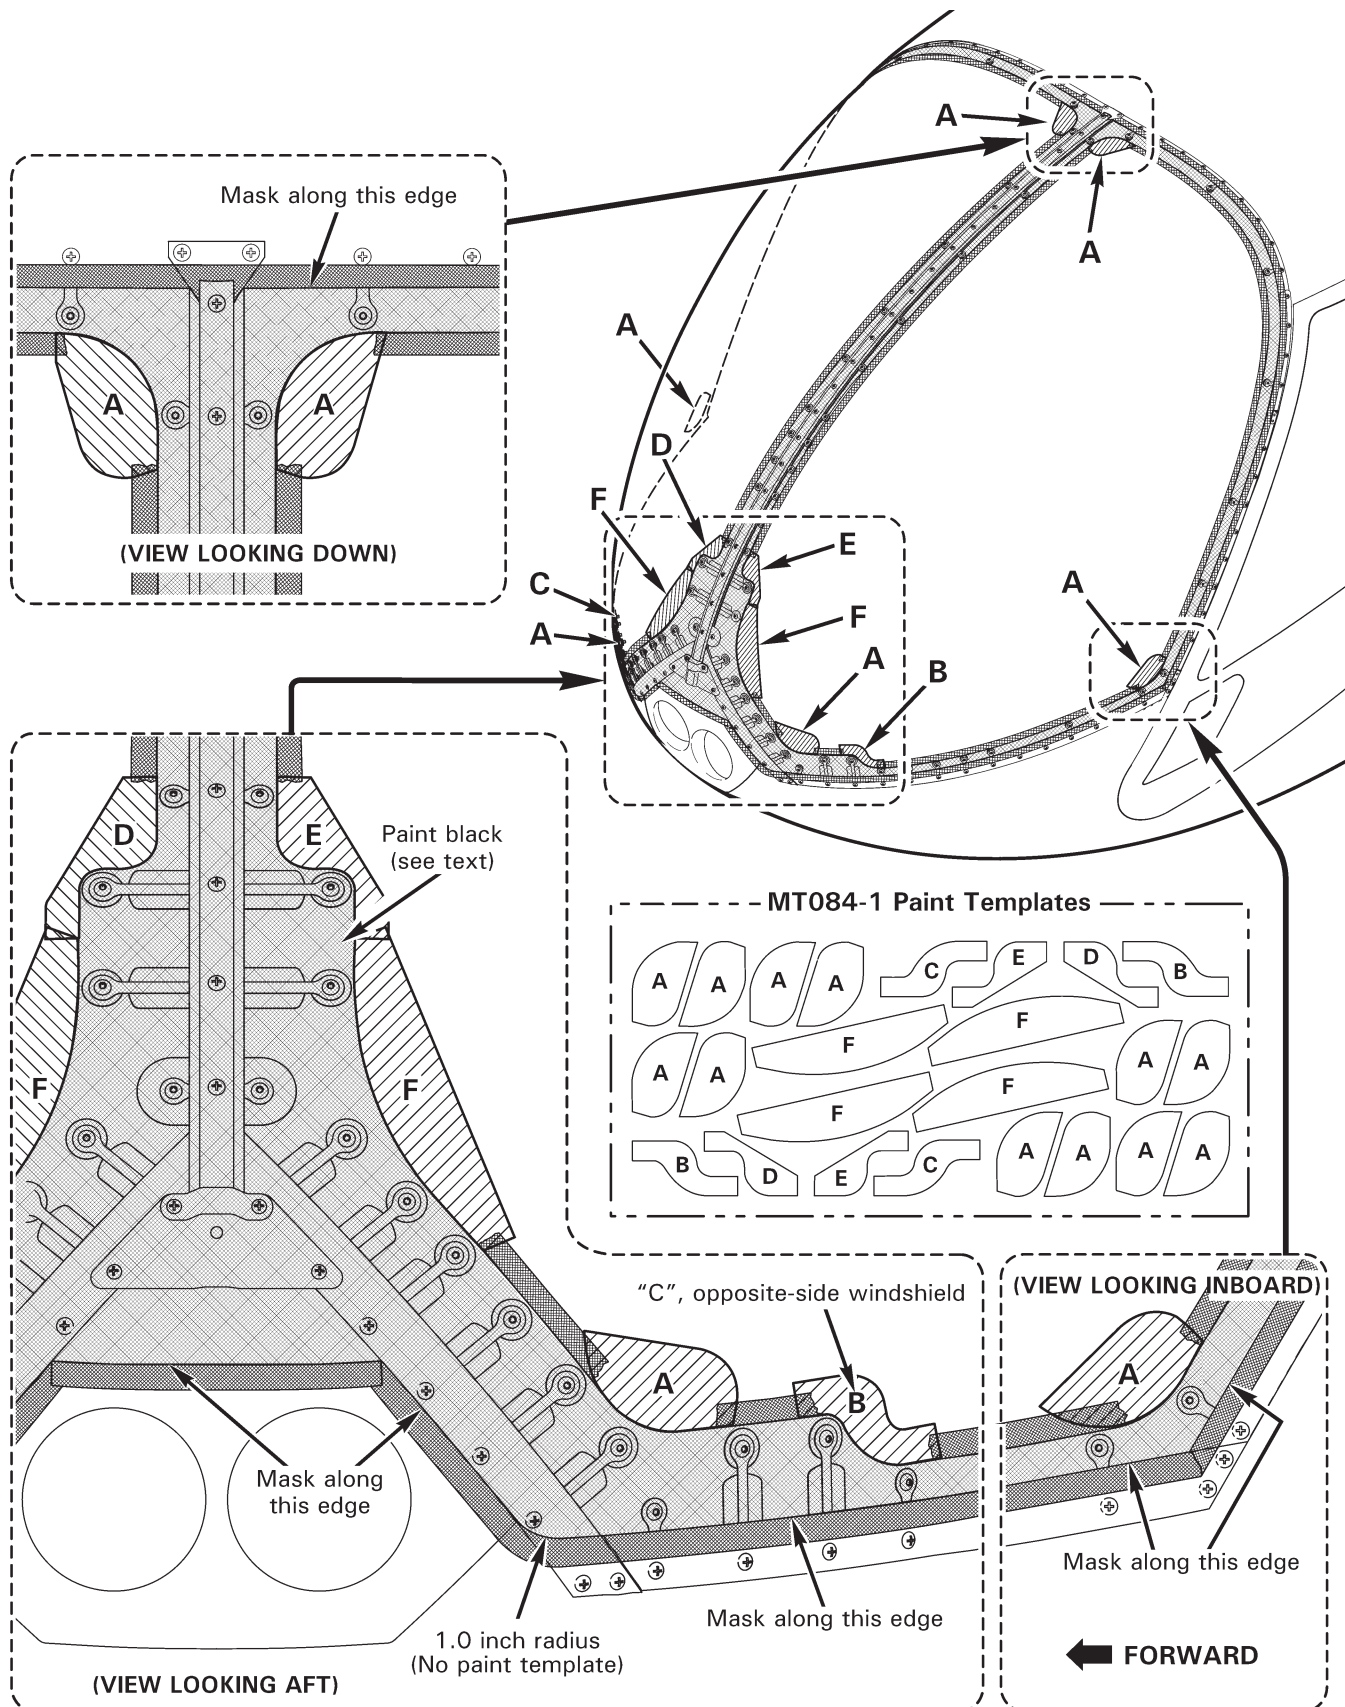

FIGURE 52-4 PAINT TEMPLATE LAYOUT
4. Refer to Figures 52-4 and 52-5. Using 3M vinyl tape (or equivalent), apply masking ("Tape 1" and "Tape 2") to windshield as shown. Apply MT084-1 paint templates on windshield as shown.
5. Refer to Figure 52-4. Using 3M vinyl tape (or equivalent), apply masking to windshield retainer edges, area near landing lights, and between MT084-1 paint templates as shown.
11. Refer to § 20-77. Apply black paint to windshield trim prepared surfaces per Figure 52-4.